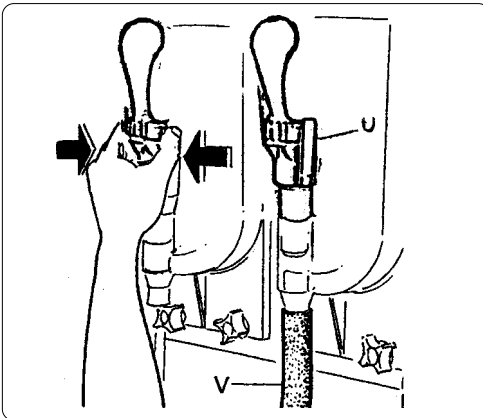

Fig. 23
- l) Lift the unit and remove it from its seating (as shown for the other tap) without removing the tap (U) completely (fig. 23).